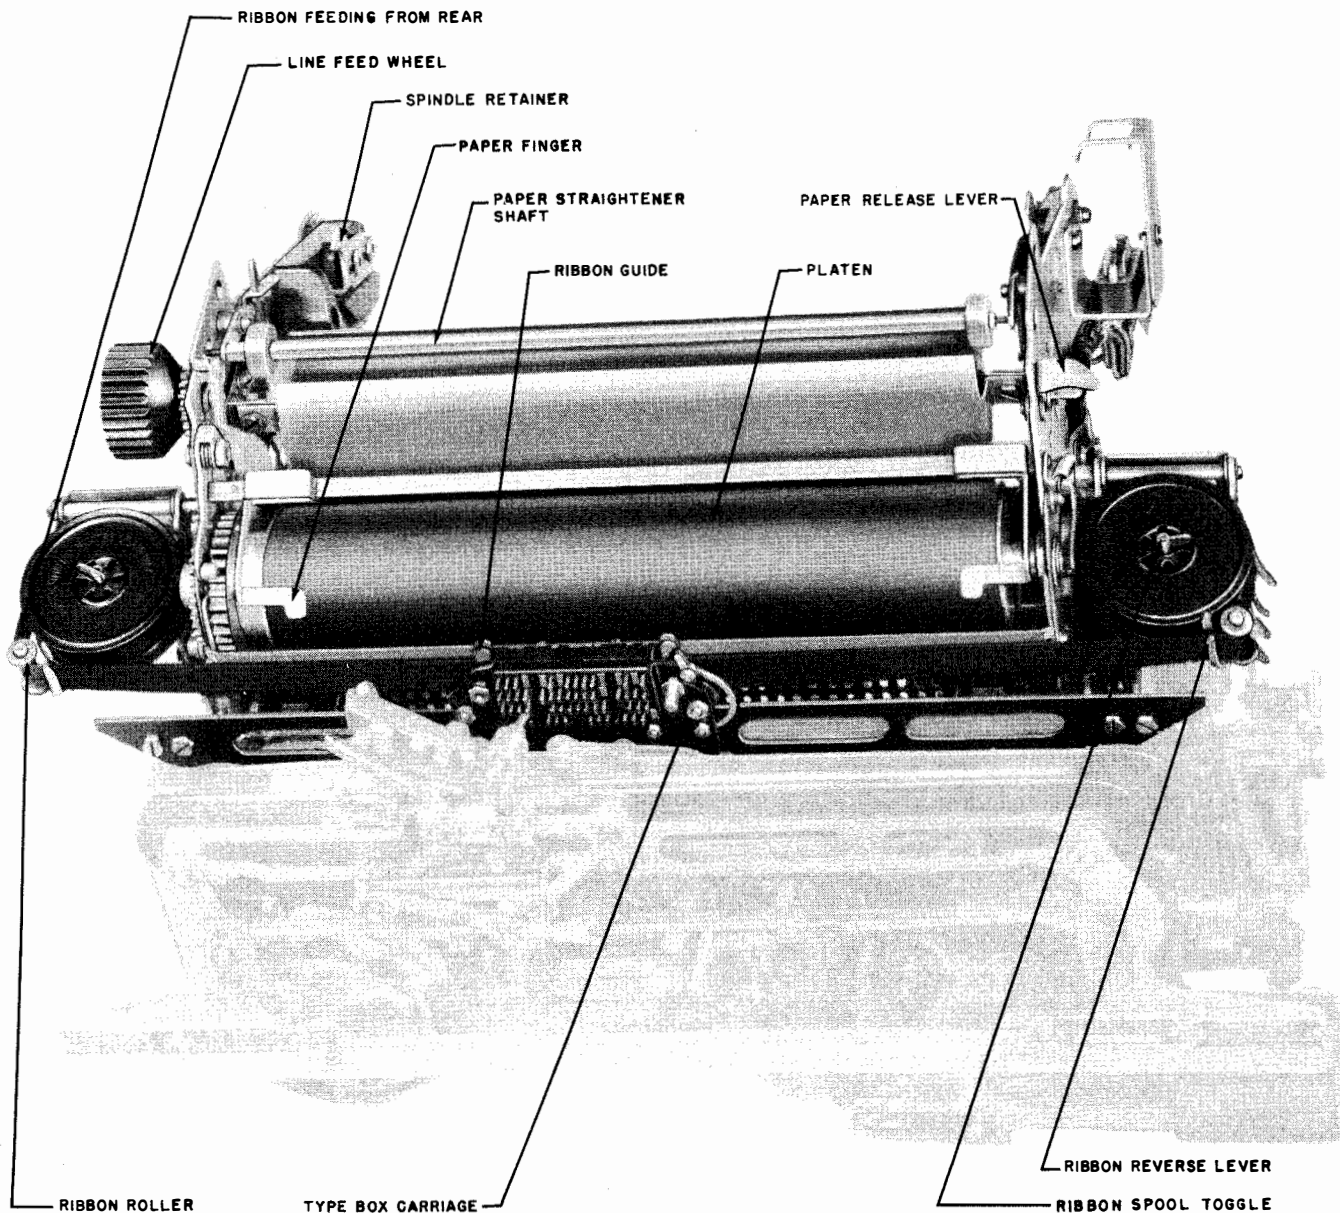

Figure 4-2. Automatic Typewriter MX-1115/UG, Top View
*c.* LINE FEED.—This key, when depressed, feeds the paper upward one or two spaces dependent upon the positioning of a single-double line feed lever located on the Automatic Typewriter (figure 4-2).
(See figures 4-2, 4-4 and 4-5.)
*a.* To replenish the supply of paper, open the dome of the Cabinet, move the paper release lever (figure 4-2) on the Automatic Typer toward the rear, slide one of the spindle retainers toward the rear and remove the paper spindle. Insert the spindle in a fresh roll of paper and remount it so that the paper unwinds from underneath. Feed the paper over the paper straightener shaft and fold the end of the paper backward to square it off. With the paper release lever toward the rear, start the paper feeding around the platen and then restore the release lever to its forward position. Depress the platen handwheel and continue to feed the paper upward. Do not disturb the ribbon. Make certain that the paper passes under the paper fingers which may be raised temporarily to facilitate the operation. It may be necessary to operate the release lever momentarily when finally straightening the paper.
*b.* To replace the ribbon, open the glass door in the dome, raise the ribbon spool toggles (figure 4-2) to the vertical position and remove both spools. Engage the hook that is on the end of the new ribbon in the hub of the empty spool. Wind a few turns of the ribbon onto the empty spool to make sure that the reversing eyelet has been wound upon the spool. Place the spools on the ribbon spool shafts in such a manner that the ribbon feeds from the rear of each spool without twisting. Turn each spool shaft slightly until the driving pins on the spool shafts engage the holes in the spools. Thread the ribbon forward around both ribbon rollers, through the slots in the ribbon reverse levers, and through the ribbon guide on the type box carriage.